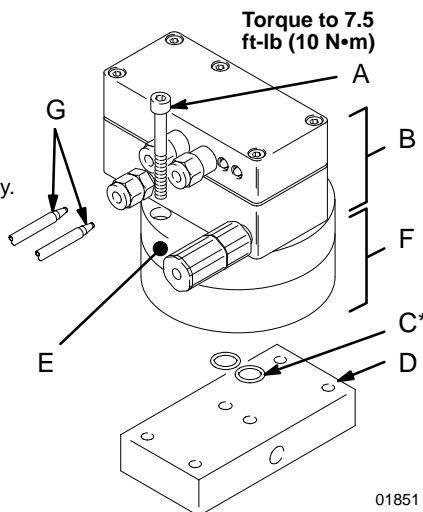
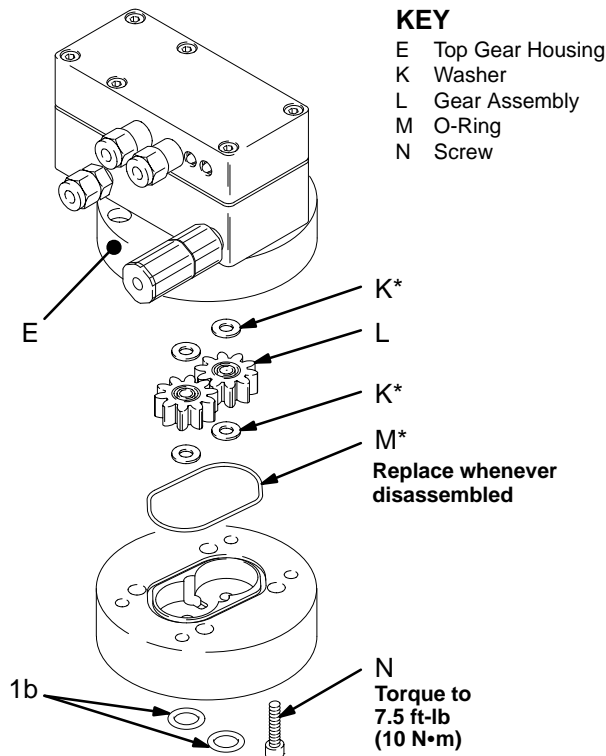

Fig. 3 Replacing the Turbine Alternator
Fig. 5
2. Disconnect the fiber optic cable(s) (G) from the electronic module (B). See Fig. 3.
4. Remove the four screws (A) to separate the gear housing (F) from the manifold.
1. Loosen the four screws (N). See Fig. 5. Leave about two threads connected.
2. The two halves of the gear housing are pegged together and will be difficult to separate. The pegs are part of the top gear housing (E).
3. Install the o-ring (M*), washers (K*), and gear assemblies (L*). Be sure to install the gears on their proper pegs. See Fig. 5.
4. Press the gear housings together and secure them with the four screws (N). Torque the screws to 7.5 ft-lbs (10 N•m).
When installing the screws (A), replace the meter's two o-rings (C*) with the o-rings from the kit. Torque screws to 7.5 ft-lbs (10 N•m). See Fig. 3.